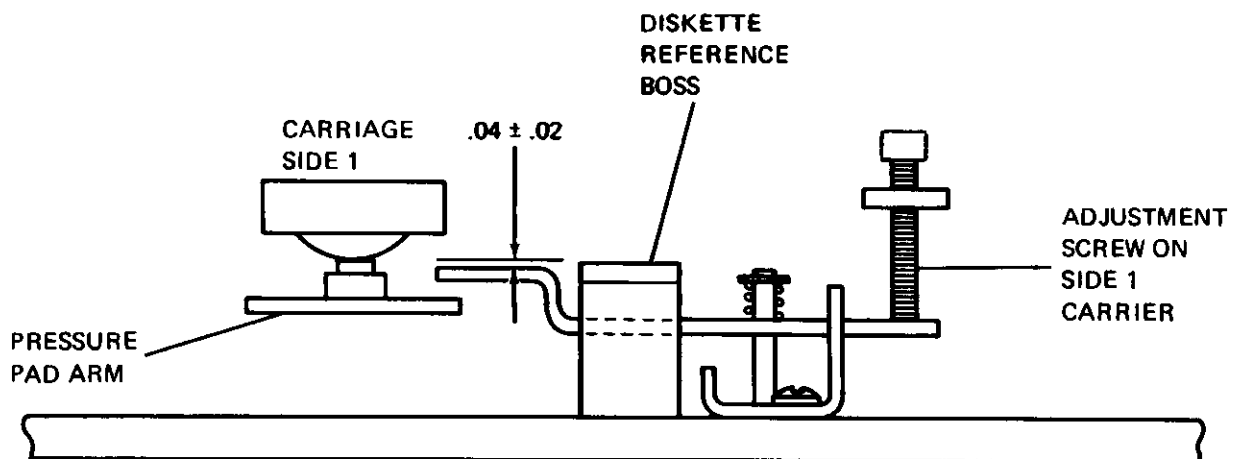

Figure 2-14. Head Pressure Arm Retract Mechanism
- d. The mechanism as viewed in this manner should appear as shown in Figure 2-14.
- c. Observe the position of the retract mechanism as viewed through the diskette aperture in the bezel. (Figure 2-14.)